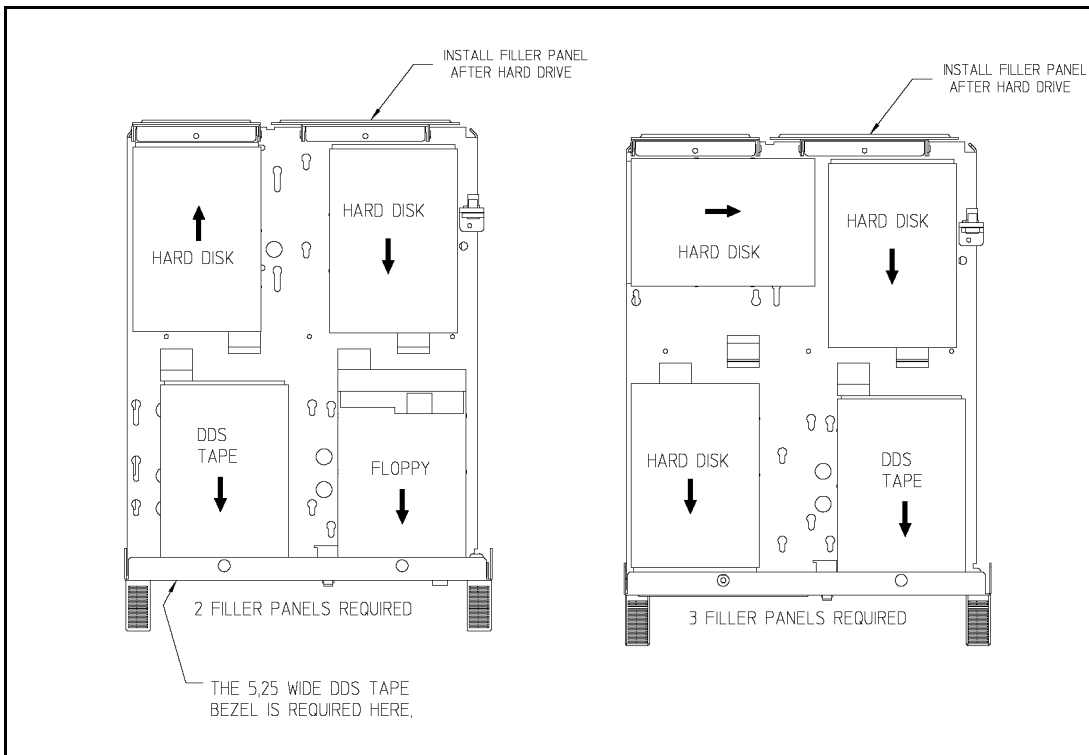
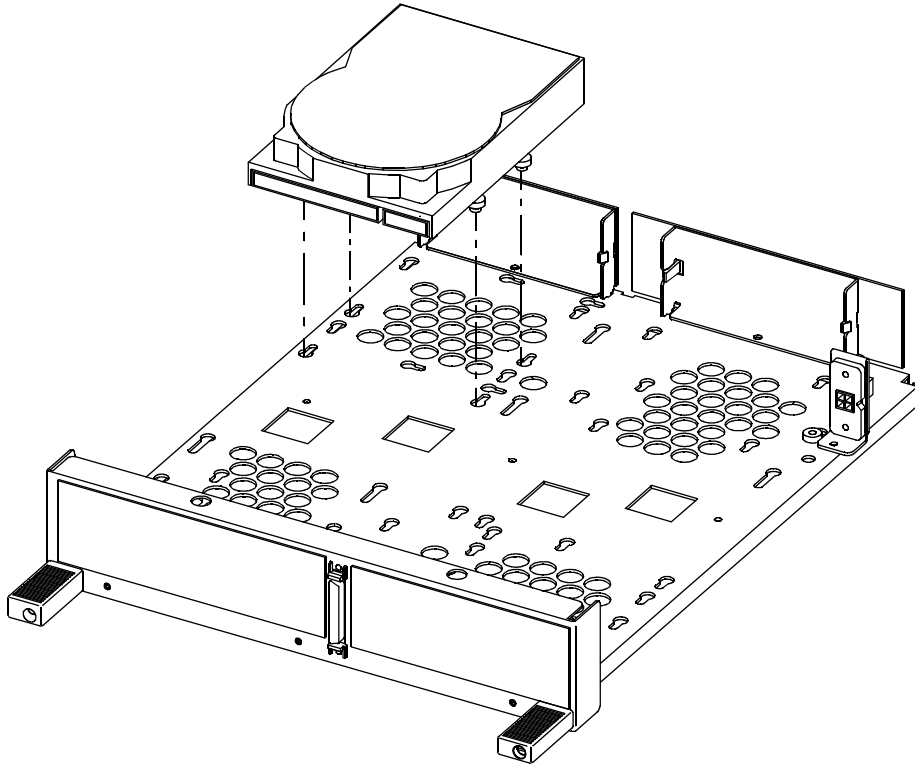

Figure 6-1 Mass Storage Module: Typical Device Positions
Figure 6-2
Removable media drives can be fitted to be accessible from either the front or the rear of the Model 748 chassis. See Figure 6-1 for some typical locations.
- 7 Invert the device and fit the loosely-fitted screw heads into the large end of the appropriate keyhole slot, at that location (See Figure 6-1 for typical locations and Figure 6-2 for installation.)